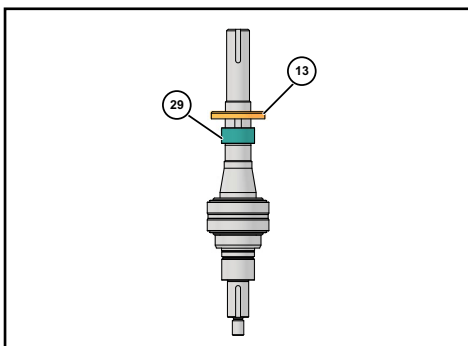

Figure 61 - Install Rear Seal
1. Install the gear spacers (Figure 61, item 29).
3. Install the oil seals with the spring facing out (Figure 61, item 13).